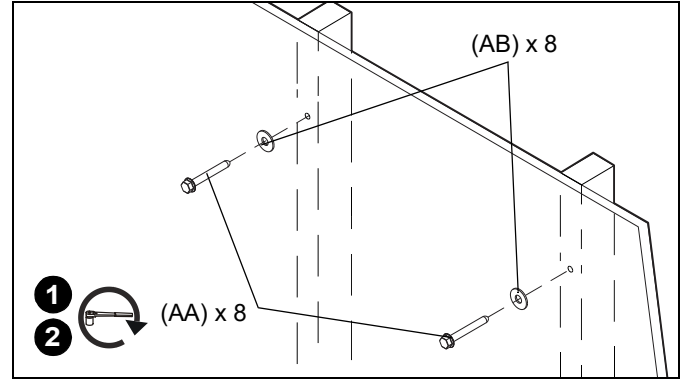

Figure 20
1. Use one 5/16" x 2-1/2" hex flange head lag bolt (AA) and one 5/16" washer (AB) through product and into pilot hole. (See Figure 20)